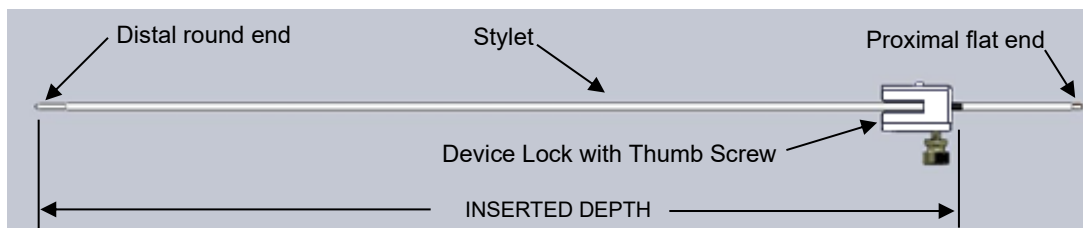

Figure 32: Device Lock attached to the Stylet
4. Position the Device Lock on the depth mark on the Stylet and tighten the thumb screw. The inserted depth of the Stylet is defined by the proximal side face of the Device Lock to the distal tip of the Stylet. Confirm the length using the Ruler. **See Figure32.**
6. Set the inserted depth on the device from the distal end of the device to the top of the Device Lock using the Ruler. Lock the device to the Device Lock with the thumb screw. Verify the measured inserted depth. Alternately, the bottom of the Depth Stop can be located at the appropriate position and locked into place on the device with the thumb screw prior to inserting the device into the Device Lock. **See Figure 32 and Figure 1833** for similar placement of the Depth Stop or Device Lock onto Stylet.